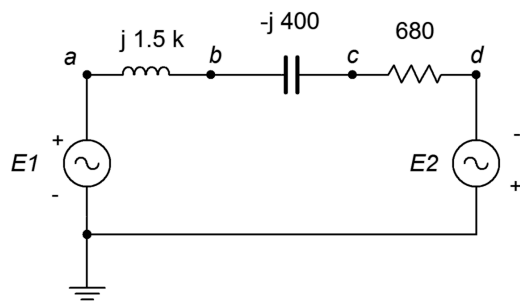

Figure 2.36
54. For the circuit of Figure 2.36, determine the voltages v_b and v_{db} . $E1=2\angle 0^\circ$ and $E2=5\angle 90^\circ$.
56. For the circuit of Figure 2.36, determine the inductor and capacitor values if the source frequency is 12 kHz.